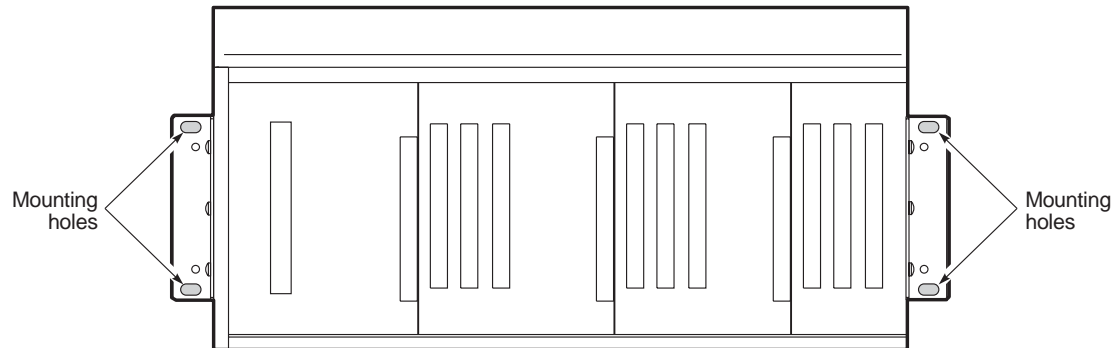

Figure 3. Mounting the FCS-717 List 4B COT Shelf
- 1 Align the shelf universal mounting brackets with the four vertical mounting holes (see Figure 3).